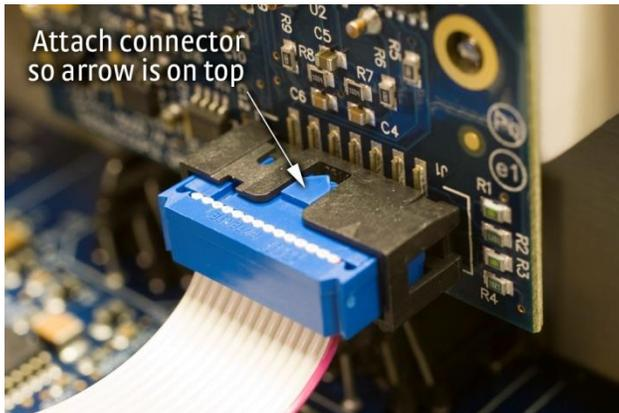

Figure 3. Proper orientation of the ribbon cable connector plug
8. From inside the instrument, place the option card into its position in the rear panel. Orient the card so that the 14-pin ribbon cable connector is toward the bottom of the instrument, closest to the main circuit board (Figure 3).
12. *(You do not need to do this step if you are installing the Model 3062.)* Insert the 14-pin ribbon cable connector plug into the socket on the option board. Orient the ribbon cable connector plug so that the arrow nub slides into the plug slot, and the ribbon cable exits downward (Figure 3).